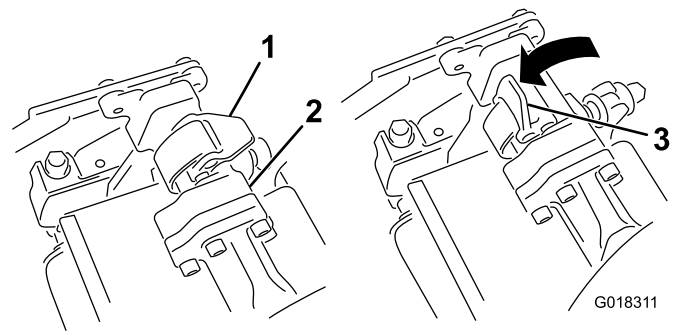
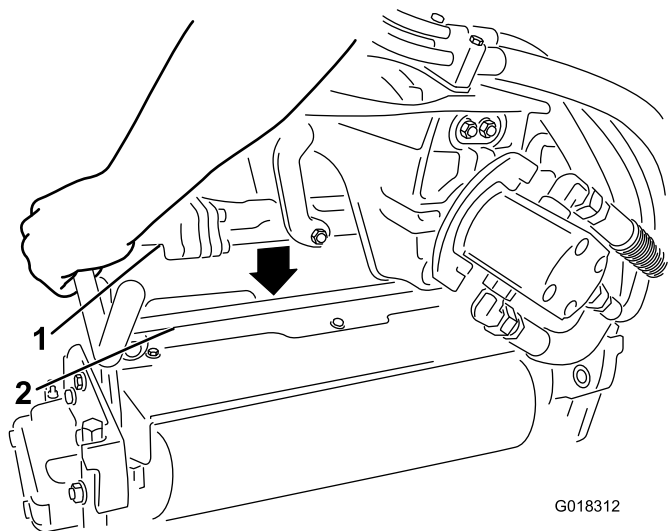

Figure 3
Figure 4
3. With the latches on the suspension-arm bar pointing up (Figure 3), push the suspension arm down so that the bar fits over the bar across the top of the tri-roller unit (Figure 4).
4. Close the latches down and around the tri-roller unit and lock them in place (Figure 3).